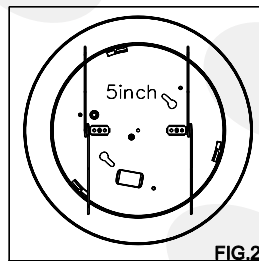

FIG.2
Connect supply wires to wires on fixture with wire nuts or push wires into Quick Connector. Connect white to white, black to black, and copper wire to copper wire as grounding connection. (FIG.2)
- Thread the SOCKET ADAPTER into the SOCKET. (FIG. 2)